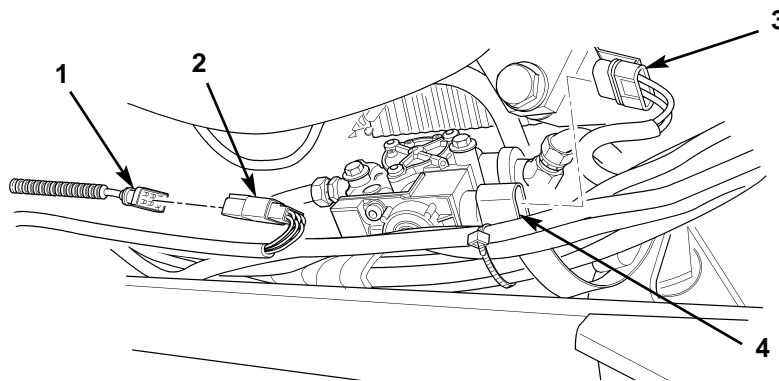

Figure 9. Connecting Front Wheel Sensor and Modulator Harnesses.
9. Connect left front wheel sensor cable plug (figure 9, item 1) to left front wheel sensor harness connector (figure 9, item 2).
10. Connect left front modulator harness plug (figure 9, item 3) to left front modulator receptacle (figure 9, item 4).